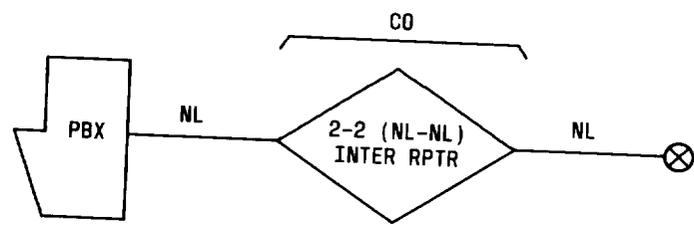

Fig. 13—Off-Premises Station Line Using J99343PD Repeaters
5.01 The J99343PD, L1, L2, and L3 repeaters may be used to provide gain on any 2-wire circuit between nonloaded facilities. Figure 13 shows a typical application using the unit in an off-premises station (OPS) line. These units also can be used on foreign exchange (FX) trunks, WATS trunks and lines, and other special service metallic facilities. Section 332-910-180 provides additional information.